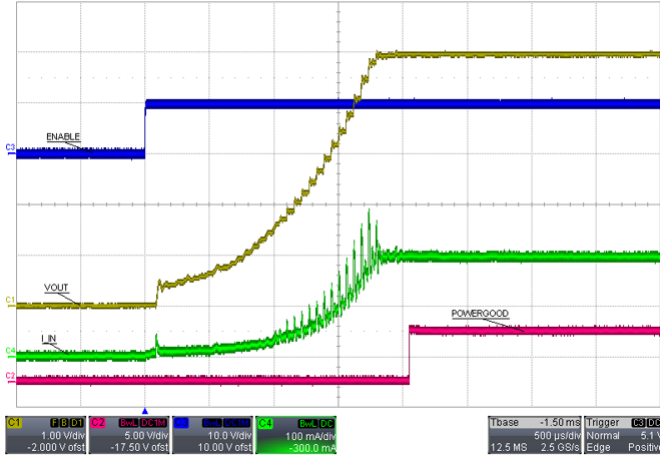

Figure 10: Typical Soft-Start Triggered by the Enable Input.
The ARG81880 has a Power Good (PG) output with a fixed delay of $256 f_{\text{CLK}}$ cycles (t_{dPG}) on its rising edge. This relatively short delay on the rising edge ($122 \mu\text{s}$ at 2.1 MHz) allows the ARG81880 to complete soft-start, so V_{OUT} can achieve 100% regulation before PG transitions high. The benefit of the rising edge delay on PG is shown in Figure 10. The PG output is an open-drain output, so an external pull-up resistor must be used, as shown in the applications schematic. If Power Good is not used, the PG pin can be left floating or grounded.